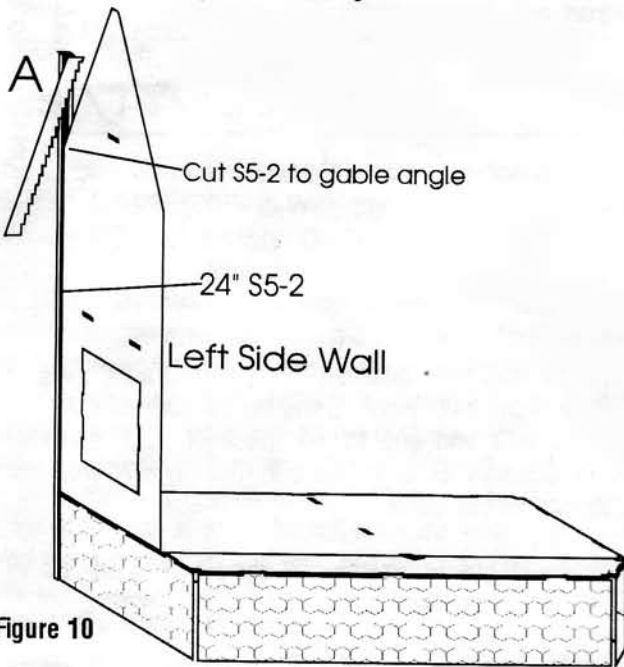

Figure 10
5. Left Side Wall- Install a 24" piece of S5-2 into the left back corner of the base assembly, location "A". Insert and glue the Left Side Wall into the forward facing groove of the S5-2, making sure the wall edge is fully seated into the groove. Glue the bottom edge to the Base Floor. After the glue is dried, trim the top end of the S5-2 off at the same angle as the Left Side Wall Gable. The excess cut from the tops of the posts will be used for the front gables. See Figure 10.